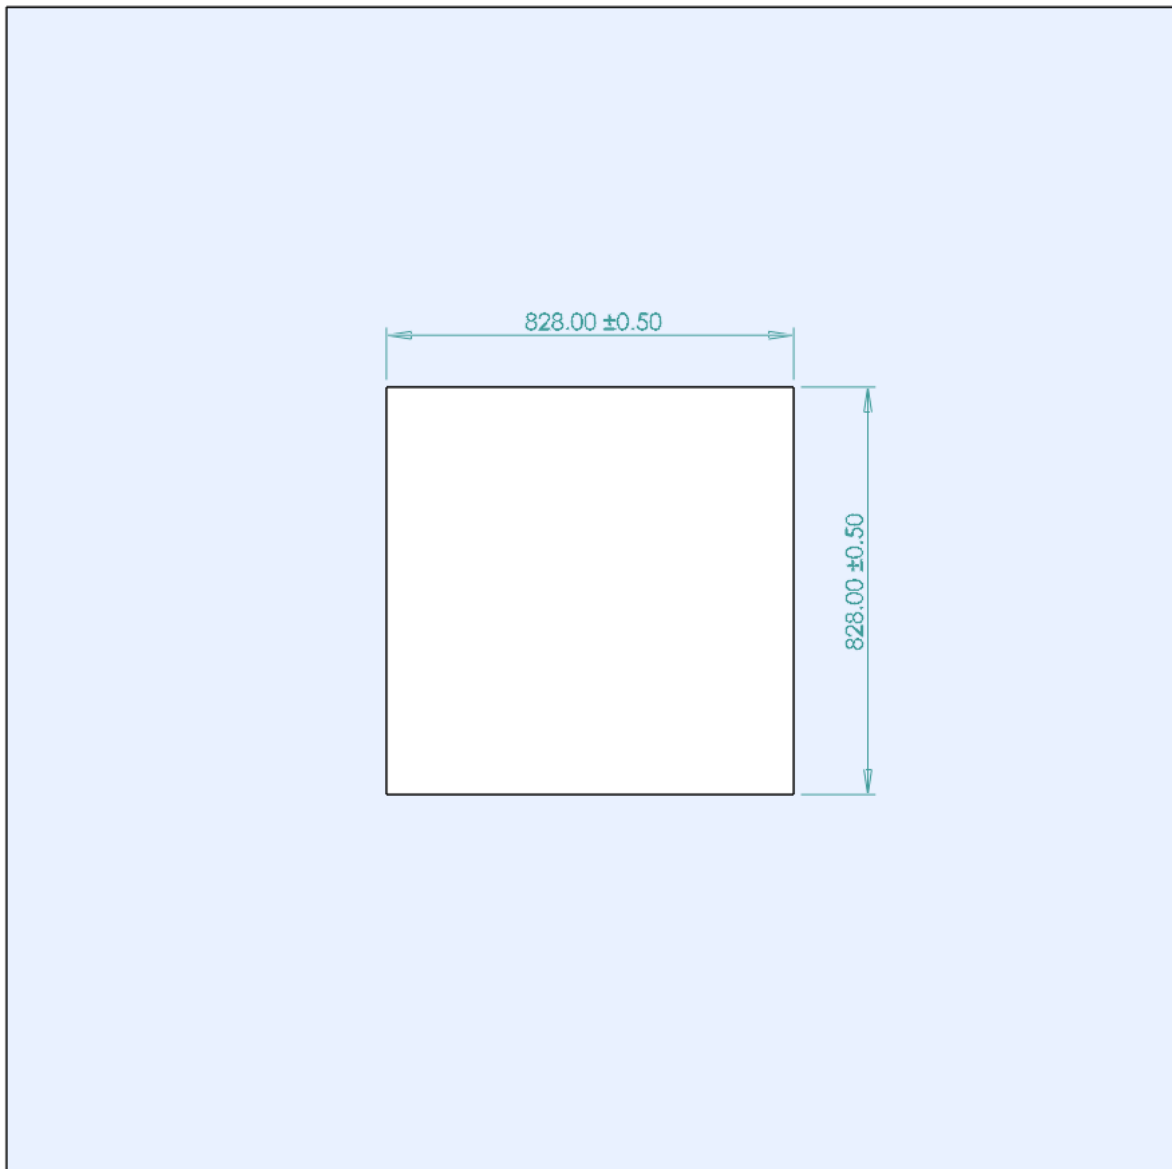

Figure 19 - Dimensions of roof opening.
1. Create roof opening of minimum 828mm x 828mm (*on the horizontal* - see figure 19).